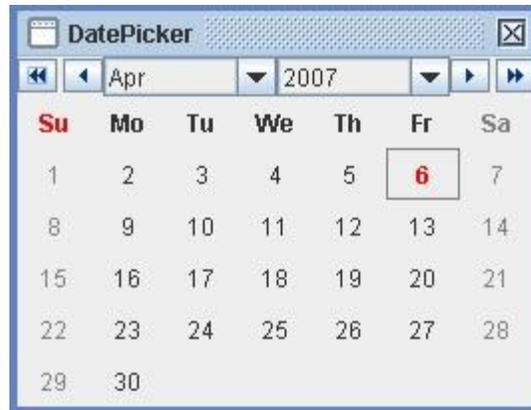

Figure 6-13. DatePicker Dialog.
1. Select Reports/Set reported position start date. A date-picker dialog will then appear (shown in Figure 6-13), enabling the user to select a date.